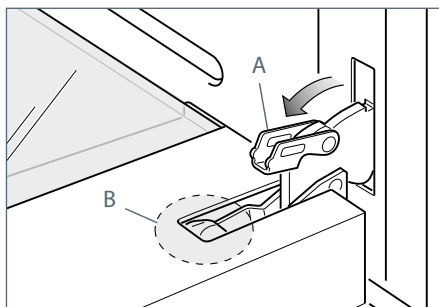
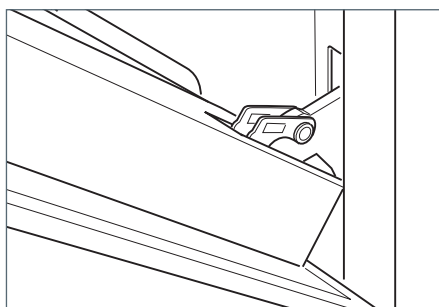

Fig. 59b
Fig. 59c
- Fully open the lever "A" on the left and right hinges (Fig. 59b).
- Gently close the door (Fig. 59c) until the left and right hinges are hooked to part "B" of the door (Fig. 59b).